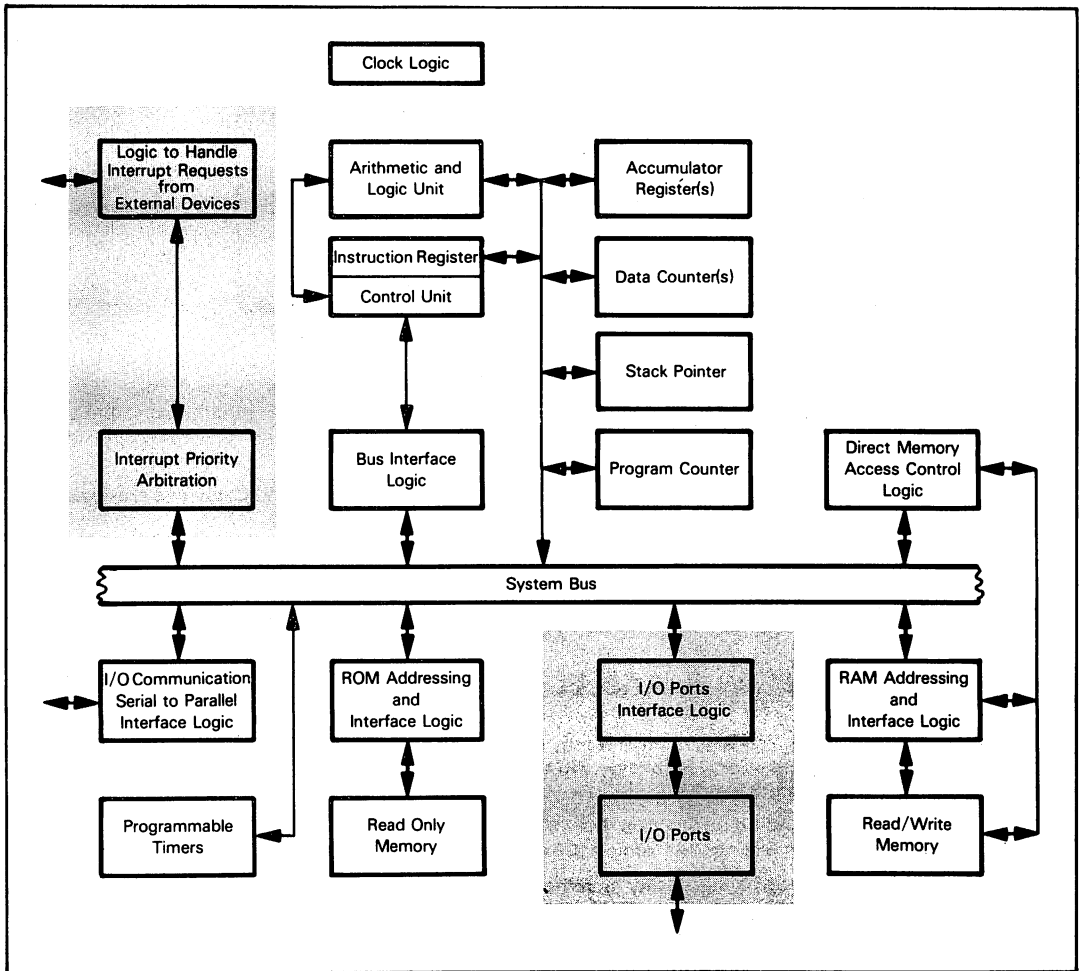

Figure 7-16. Logic Functions of the Z80 PIO
**Figure 7-16 illustrates that part of our general microcomputer system logic which has been implemented on the Z80 PIO.**